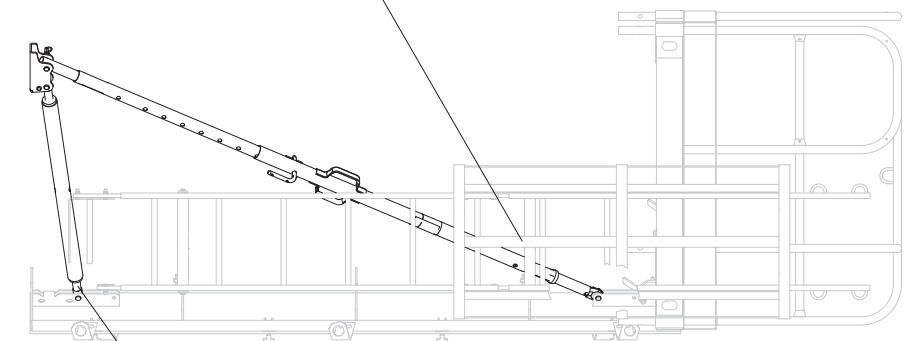

Fig. A2.13
2. Fix Push-Pull Prop and Kicker Brace with bolts and cotter pins. (Fig. A2.13)